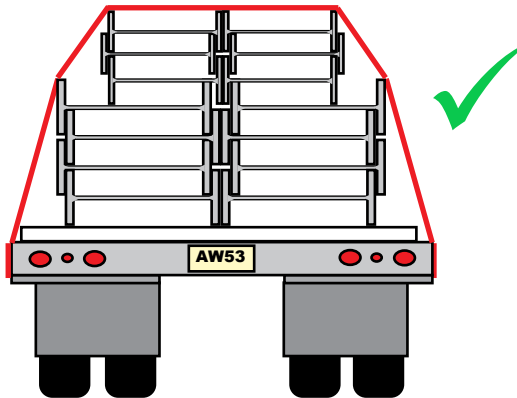

Fig 4.2 Typical double stack load of WBs, locked together with “over the top” chains, no gaps.
- ✓ Stack(s) of WBs/WCs should be locked together. (See Fig 4.2 to 4.5).